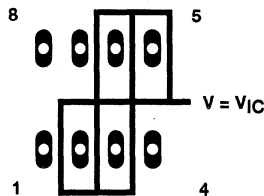

Figure 29. Isolation Metal Around Device Inputs
1. Isolate the device from other potential leakage sources. Use a grounded shield around and between the device inputs (see Figure 29). Leakages that would otherwise flow to the inputs are shunted away.
Because of the extremely high input impedance and resulting low-bias current requirements, the TLC2810Z is well suited for low-level signal processing; however, leakage currents on printed-circuit boards and sockets can easily exceed bias-current requirements and cause a degradation in device performance. It is good practice to include guard rings around inputs (similar to those of Figure 29 in the Parameter Measurement Information section). These guards should be driven from a low-impedance source at the same voltage level as the common-mode input (see Figure 33).